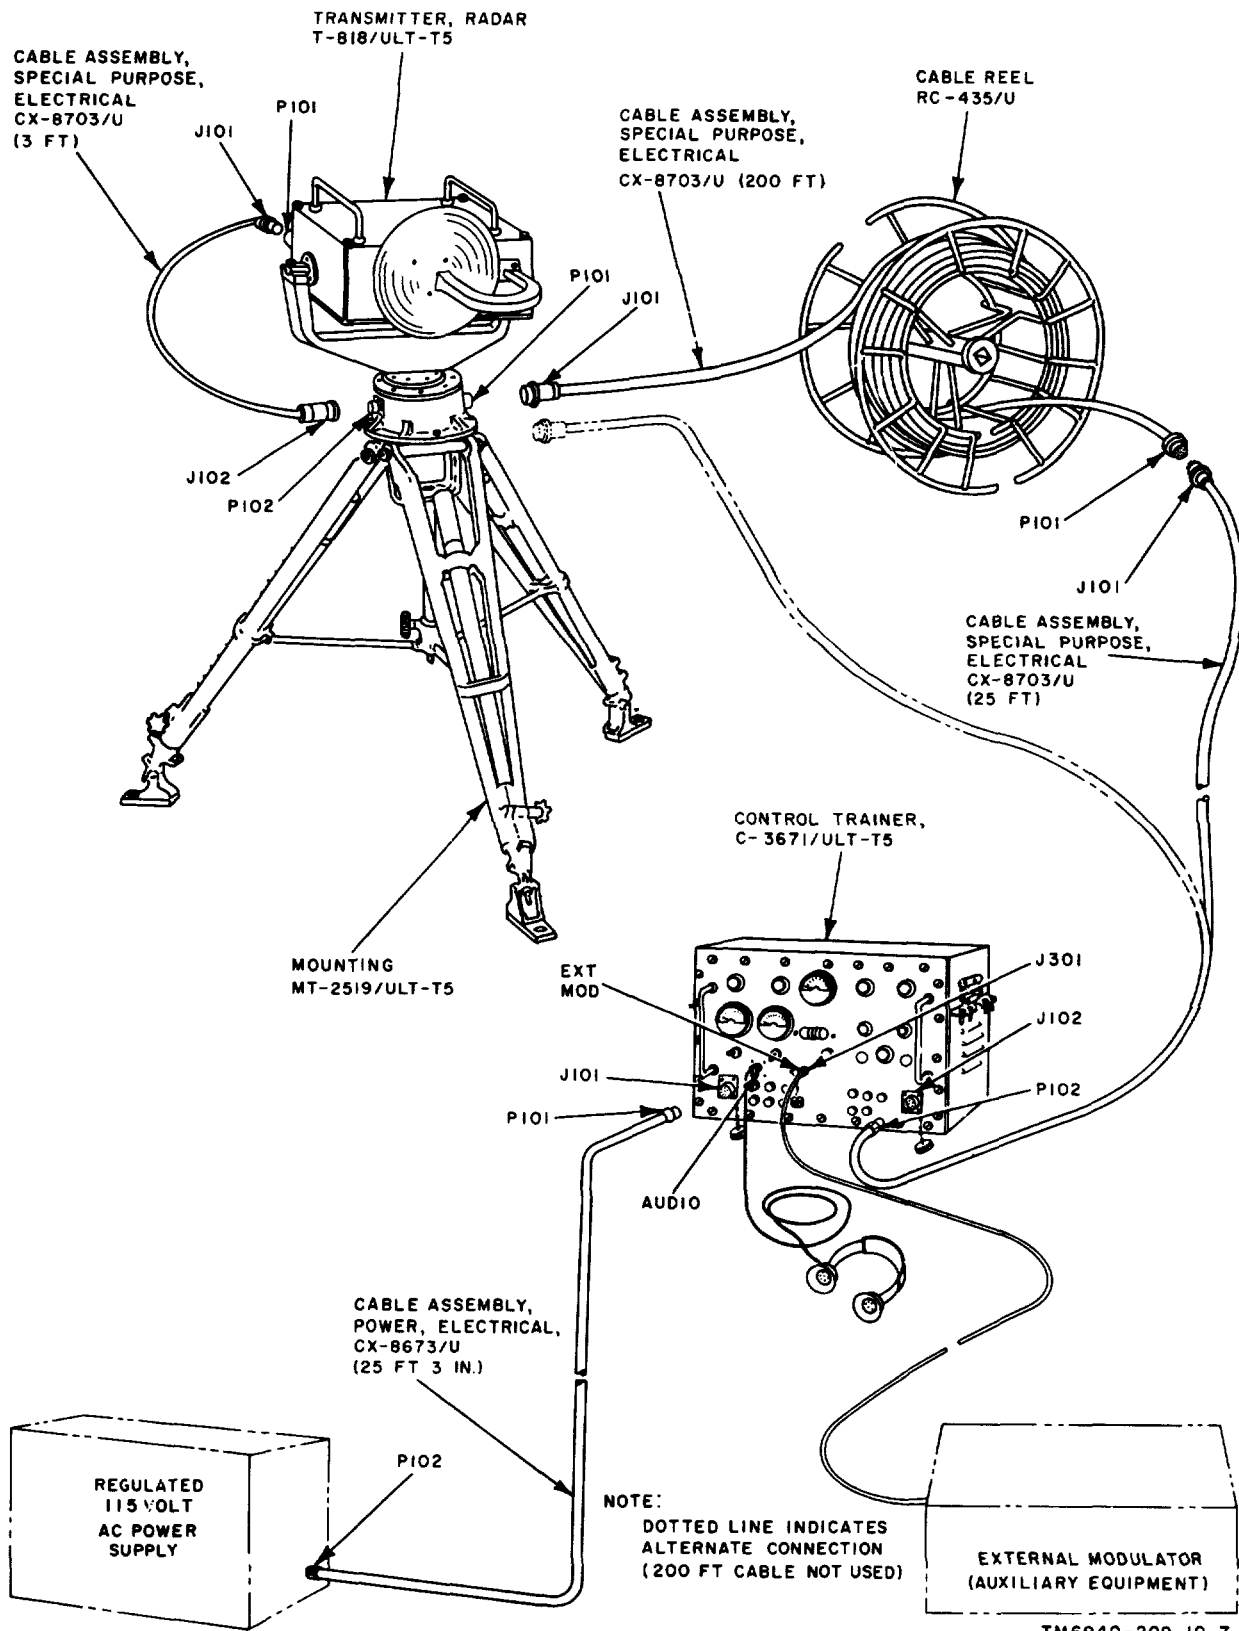

Figure 12. Radar Trainer AN/ULT-T5, pictorial cabling diagram.
- (10) Remove the hexagonal-head bolts which secure the two yoke brackets to the transmitter case and remove the yoke.
- (11) Position the yoke over the azimuth drive shaft. Make sure the keyway on the yoke engages the key on the azimuth drive shaft. Tighten the yoke retaining cap on the azimuth drive shaft to secure the yoke to the azimuth drive shaft.
- (12) Loosen four captive screws in the transmitter case cover enough to clear the transmitter mounting feet.
- (13) With assistance, carefully lift the transmitter and position it on the yoke so that the shaft end of the transmitter engages the yoke retaining seat. Tighten the captive screws to secure the transmitter.
- (14) Remove the 3-foot cable from the transmitter case and connect the 3-foot cable to receptacle P101 in the transmitter unit and receptacle P102 on the azimuth drive unit (fig. 12).
control unit and the radar trainer transmitter will determine whether the 200-foot cable will be used. Install the tables as shown on figure 12 in accordance with the instructions given in *a* through *h* below. If the 200-foot cable is not used, perform the procedure given in *a*, *b*, and *f* through *h* below. If the 200-foot cable is used, perform the procedure given in *b* through *h* below.